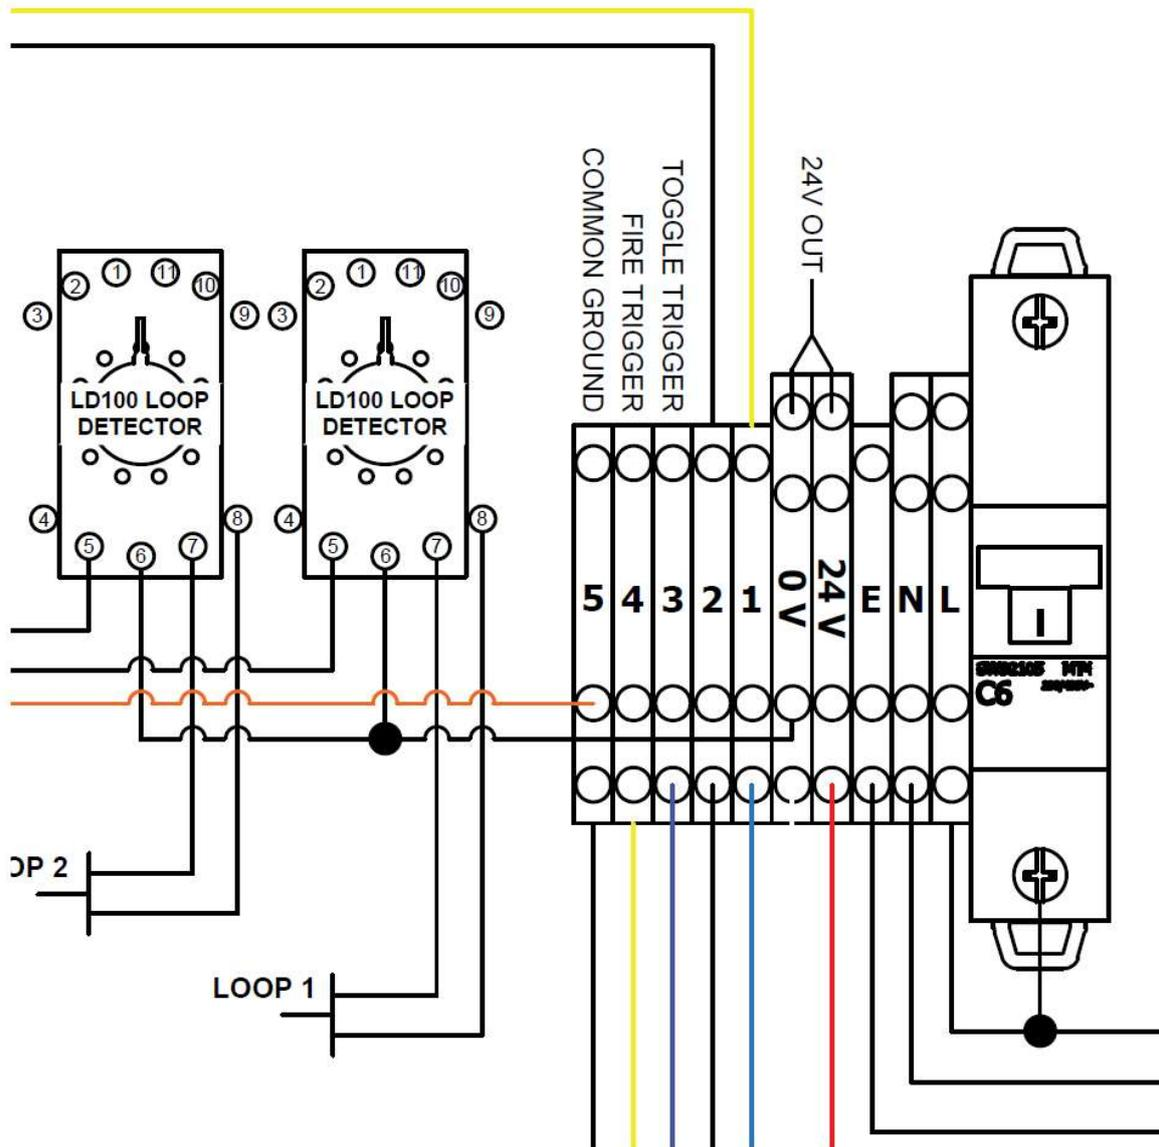

Figure 11: Secondary Triggers
5.4. In *Figure 11: Secondary Triggers*, the triggers for toggle and emergency fire are located. The triggers carry 24V DC and are shorted with the common ground.